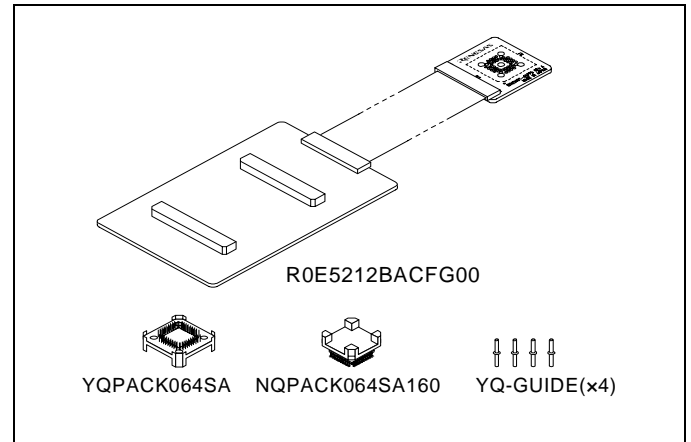

Figure 1 Package components of the R0E5212BACFG00
2. Package Components (See Figure 1)